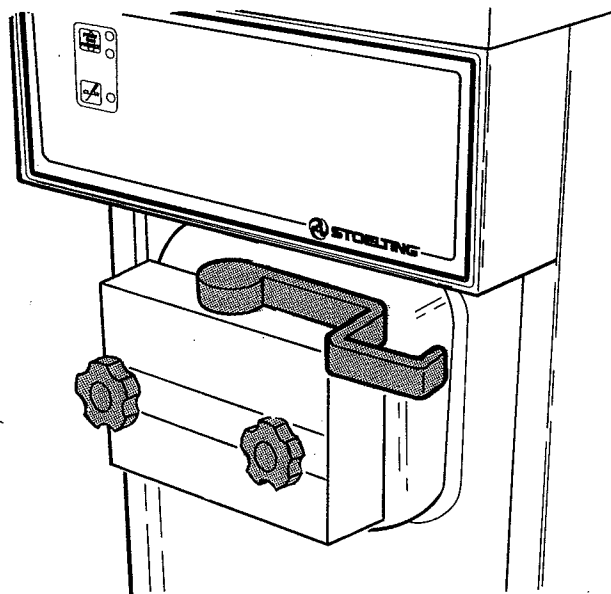

Figure 48. Front Door Assembly Installation
- O. Slide front door onto studs. Turn circular shaped knobs evenly onto studs to assure correct sealing of the front door "O" ring seal. (See Fig. 48.)